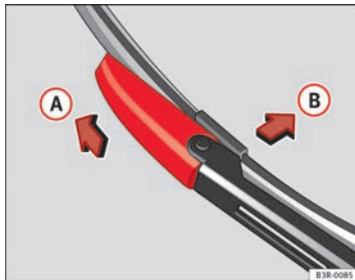

Fig. 184 Removing the wiper blade
- Slide the retainer catch on the wiper blade in the direction indicated ⇒ Fig. 184 (A). Hold onto the wiper blade at the same time.
- Pull the wiper blade (B) out of its mounting on the wiper arm.